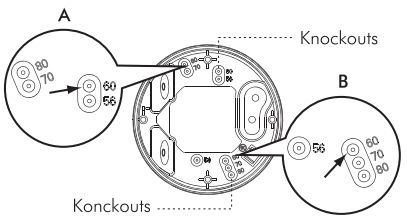

FIG.12
4.2.3.1. There are 4 pairs of knock outs with various distances from 56 mm to 80 mm on the bottom cover of combined junction box can be selected for different mounting applications (See FIG.12). Select two same figures on both ends for the corresponding distance for fixing (See Table-2).